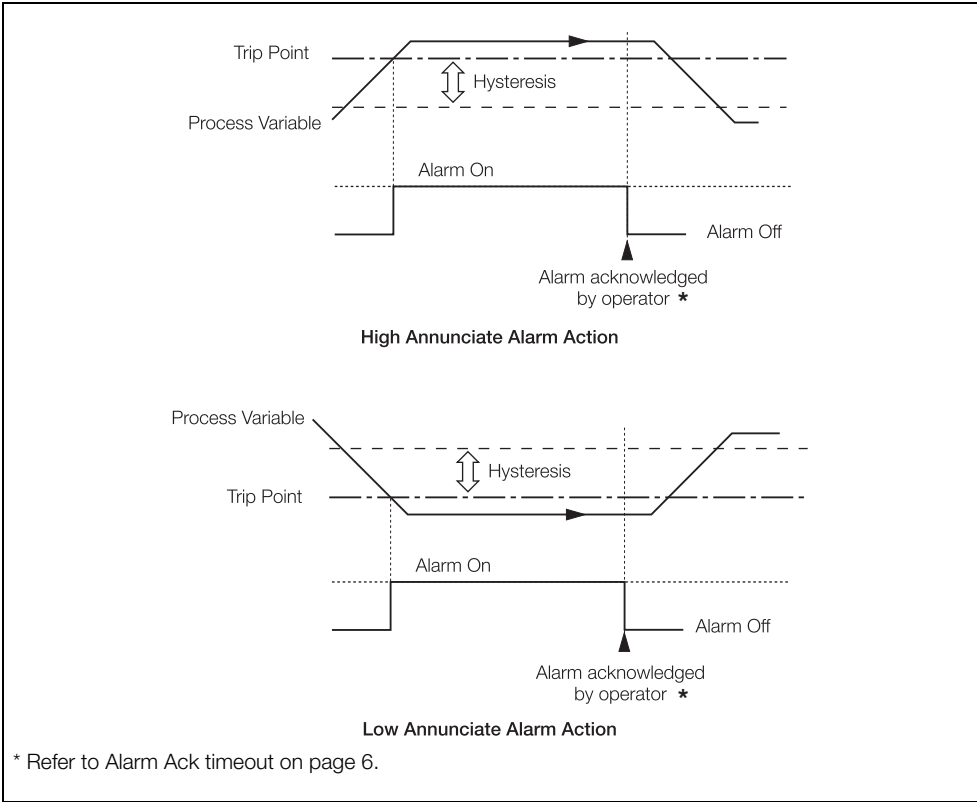

Fig. 7.13 High/Low Annunciate Alarms
- High/Low annunciate – see Fig. 7.13, page 101
Note. Annunciate alarms only – see Fig. 7.13, page 101.